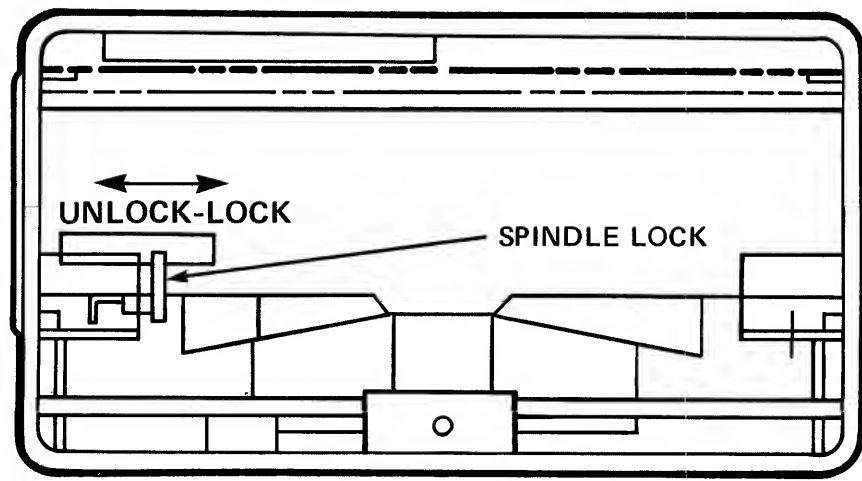

Figure 2-4. Location of Head and Spindle Lock
The drive spindle and head carriage lock is fully accessible from one end of the HDA (Head Disc Assembly). Referring to Figure 2-4, place this lever in the UNLOCK position.
2.9 Locking. The drive spindle and the head carriage should be locked whenever the drive is to be physically moved, even if it is not to be shipped. To lock the drive, refer to Figure 2-4, and place the lever in the LOCK Position.
2.13 Spindle and Head Locks. Before the drive can be operated, it is necessary to have the drive mounted or placed flat on a bench, then place the spindle and head lock lever in the UNLOCK position. Refer to Figure 2-4 for the location of this lever.